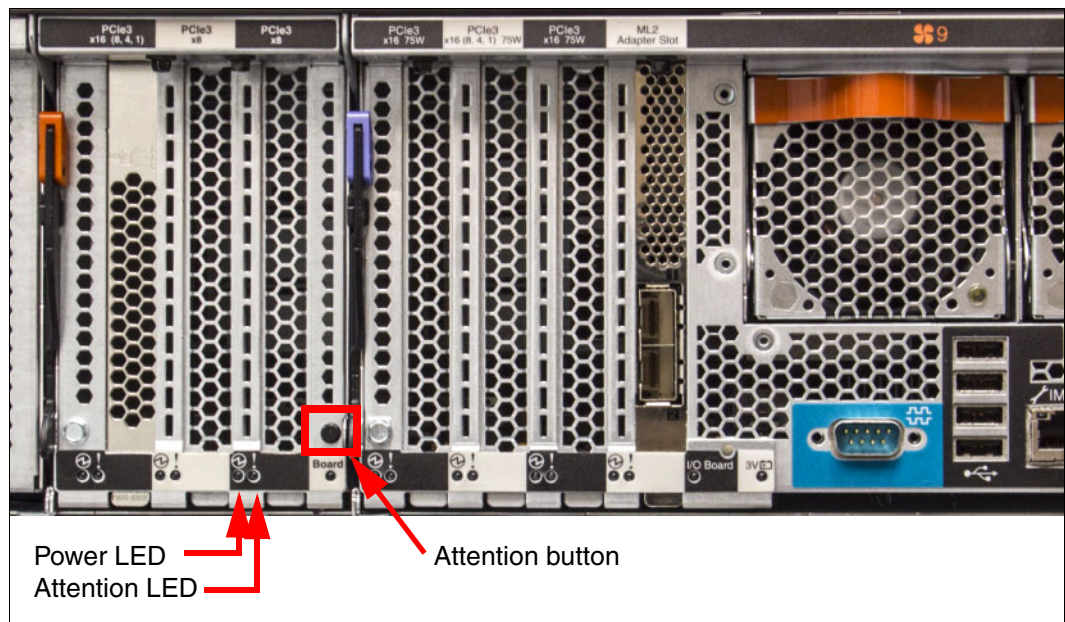

Figure 13 Attention button
- ▶ If an I/O Book is removed without first pressing the attention button (Figure 13) on the I/O Book to shut off power to all adapters in that book, I/O Books can cause the system to experience instability.